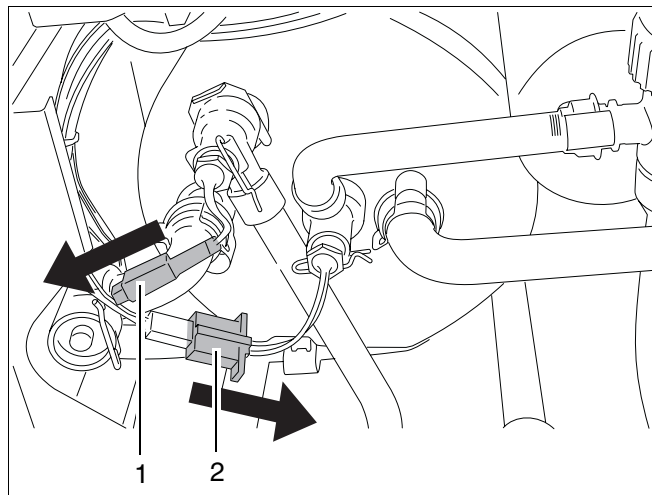

fig. 86 Disconnect plugs of hot water sensors
- Disconnect the plug of the hot water out flow sensor (fig. 86, item 1) or the hot water heat retaining sensor (fig. 86, item 2).